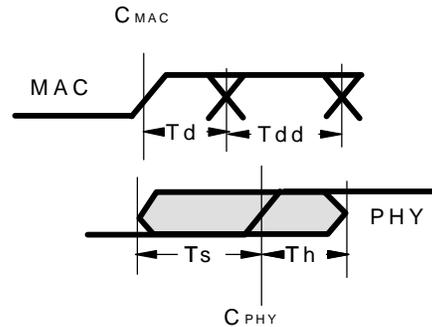

Figure. 5 MAC, PHY, case B
- B. PHY gets data from the previous clock on MAC (Figure. 5)